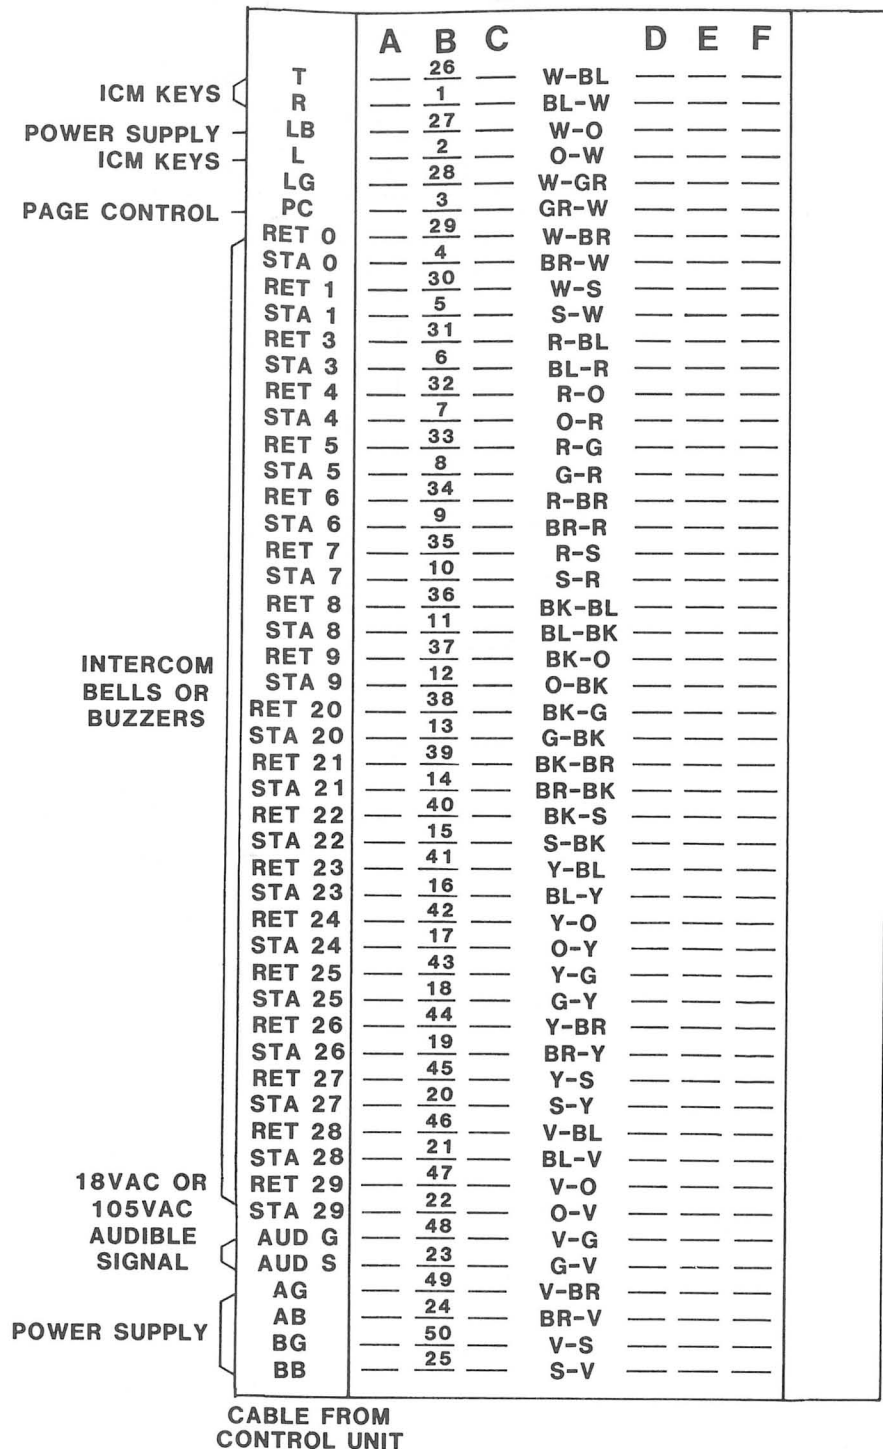

Figure 1: Connecting Block Arrangement for V-119RT
3.06 Refer to Figure 1 for connecting block layout and connections.